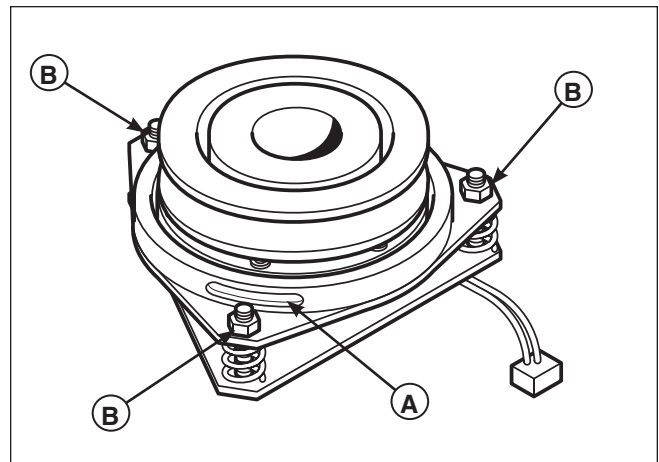

Figure 46. PTO Clutch Adjustment
2. See Figure 46. Note the position of the 3 adjustment windows (A) in the side of the brake plate and the nylock adjustment nuts (B).